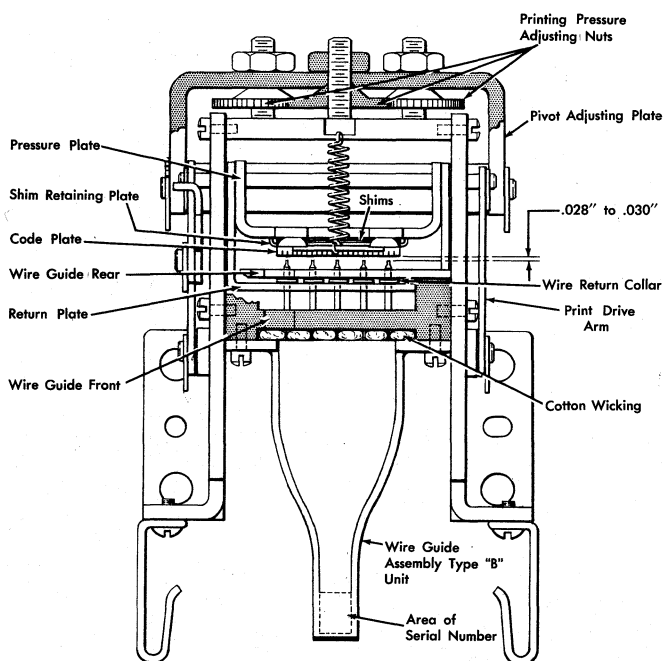

Figure 80. Printing Adjustment
1. Start with one .003-inch shim (P/N 305243) and two .007-inch shims (P/N 228296) between the pressure plate and the shim retaining plate (Figure 80). **NOTE:** No oil or
2. Turn the three large pressure plate adjusting nuts counterclockwise until snug (Figure 80). Lock in this position.
1. Turn in evenly on the three adjusting nuts (Figure 80), $\frac{1}{4}$ turn at a time, until printing is obtained. Snug up lock nuts after each step and space before punching to prevent damage to wires. A practical test to show up uneven printing can be obtained by disengaging the ribbon feed pawl and printing an H until the printing grows faint. Too much printing pressure will make the machine noisy and cause marks to appear when spacing.
2. Print arm roller (Figure 36) must be free to lift .010-inch off cam during print suppression to reduce noise and wear on cam. Check clearance with print drive spring removed. The lifting motion drives wire collars .005-inch closer to wire guide plate than their normal return after printing. If necessary, remove code plate shims and readjust printing pressure to maintain enough clearance to prevent wire return collars from striking wire guide rear (Figure 80). Code plate to wire clearance should now be .028-inch to .030-inch.
1. Remove the four holding screws and lift off rear wire guide plate (Figure 80). On IBM A print unit, it is necessary to drive out the four taper pins from front side.